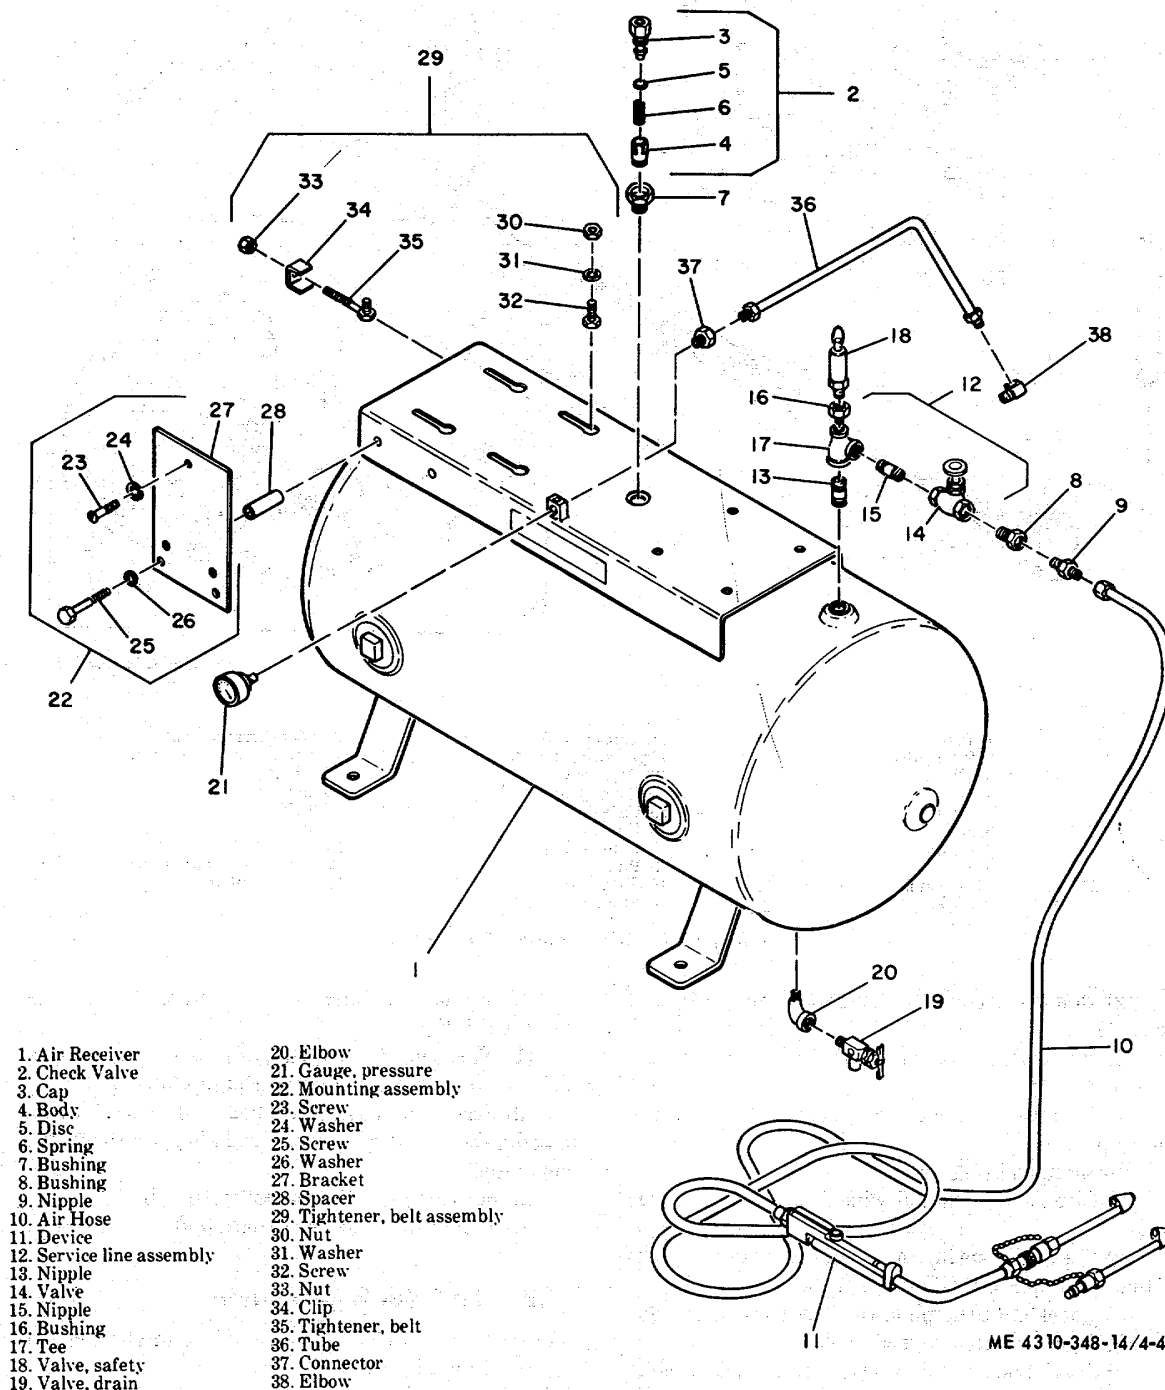

Figure 4-4. Air receiver repair.
a. Refer to figure 4-4 and remove the defective components in numerical sequence.